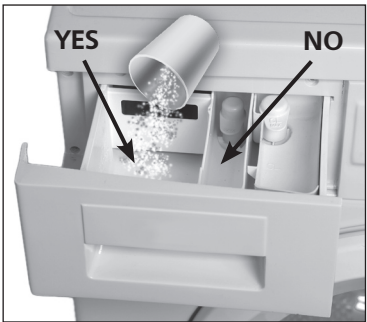

Figure 15
7.2.4 When a powder detergent is used a curtain should be removed from section 2 of the chute (if it is installed). Check so that the powder should not get to a section for special treating substances  in accordance with figure 15, as in the process of rinsing foam will be formed and white spots may appear on goods.